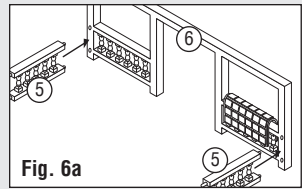

Fig. 6a
- Glue Side Railings 2x (5) to Front Railing (6) (Fig. 6a).